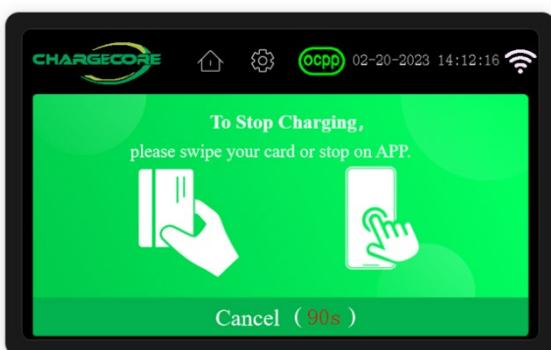

Figure 48. RFID card settlement interface
- When choosing an RFID card, you need to swipe the card again to pay (as shown in Figure 48)